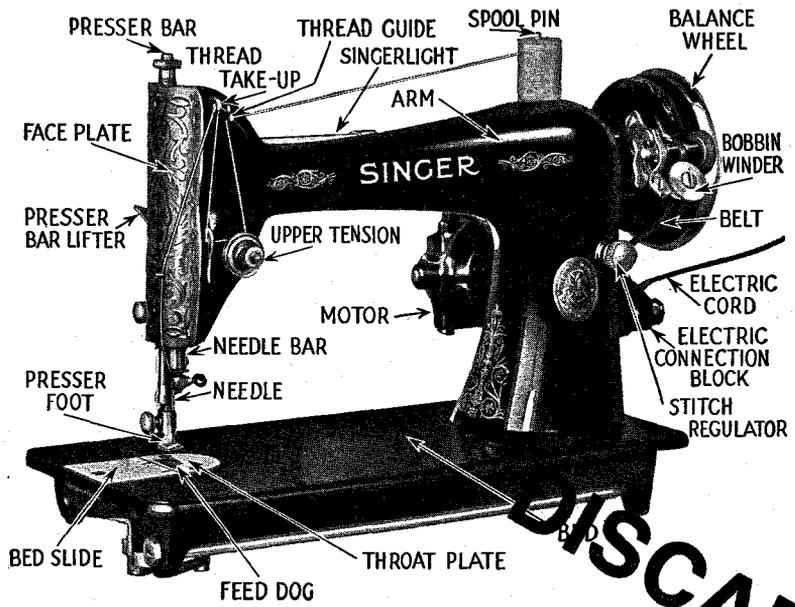

Figure 1. Sewing machine parts.
1. Remove the thread, needle, presser foot, bobbin, and shuttle. Remove the bed slide, the throat plate, and the face plate. (See Figure 1.)
6. Next tip the head of the machine back. Remove all lint, especially around the feed dog and shuttle race. (See Figure 1.)